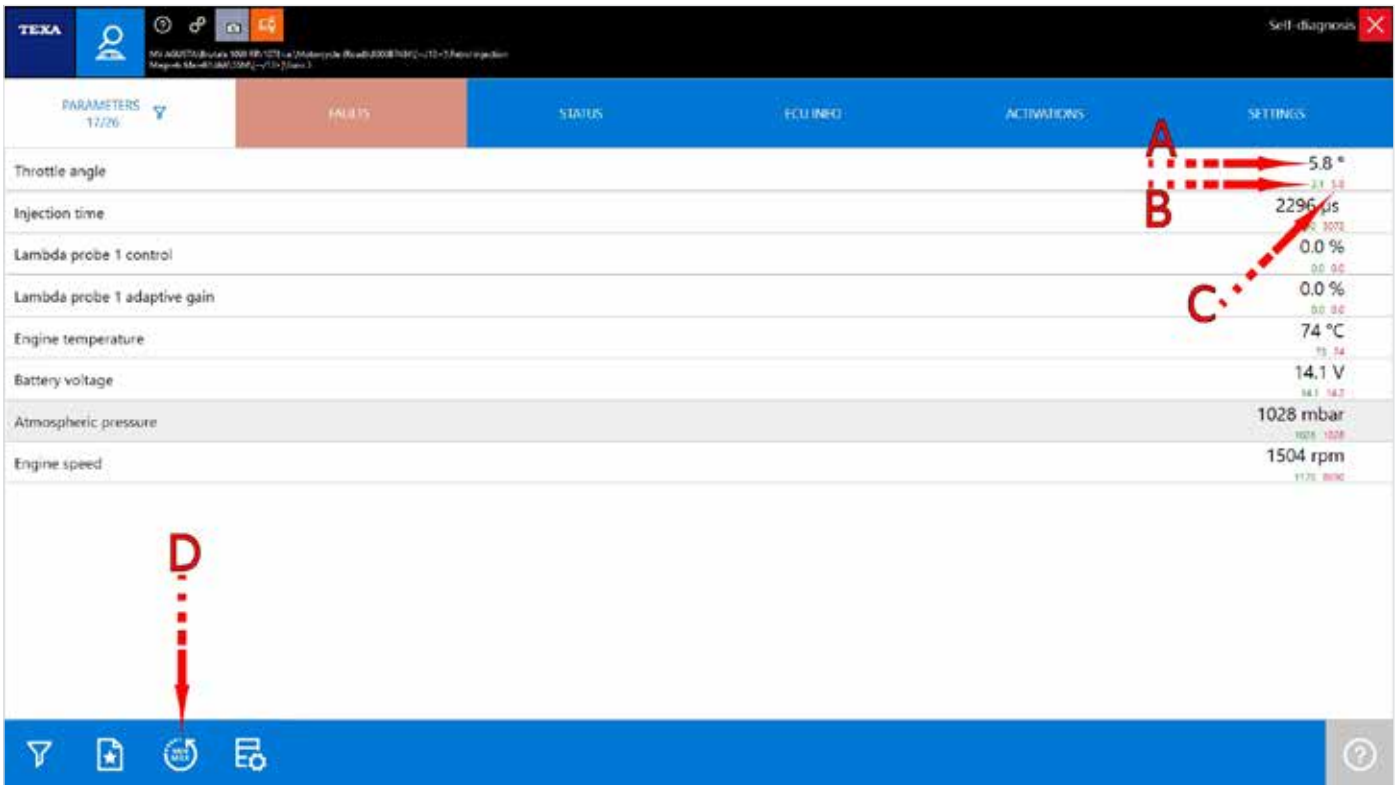

Figure 81
In Figure 81 you can see that the value of the throttle is currently at 5.8° (A), but in the self-diagnosis session a minimum value of 2.1° and a maximum of 5.8° (B and C) were also recorded. You can reset the maximum and minimum values at any time " " (D).